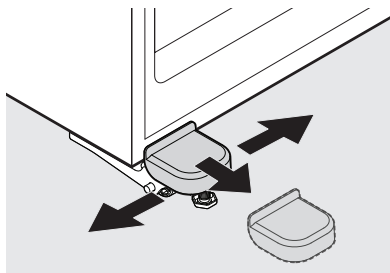

Figure 4
11. Remove the hinge cover by gently bending the tabs of the cover out while pulling the cover toward the front of the unit (see Figure 4).